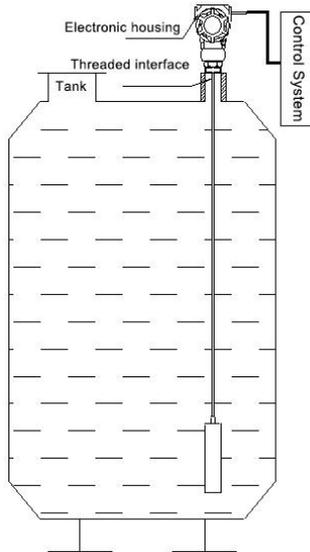

Figure 2 Threaded installation
(1) The high temperature transmitter has an installation structure such as interface thread, flange, etc., which can be flexibly selected according to the site. This example is the  $M35 \times 1.5$  thread installation method, as shown in Figure 2.
(2) When the level transmitter is installed, it can be put into water or other liquids, and the cable is led out from the wiring terminal in the shell to the display instrument, secondary instrument or control room.
(3) Choose a place that is easy to operate and maintain for installation.
(4) Install as far away as possible from the vibration source.
(5) When the level transmitter is installed, the probe should sink into the bottom of the container.
(6) The probe should be placed in the water vertically, and the angle with the vertical line should not exceed 30 degrees.
(7) If there are many impurities in the liquid medium, it is recommended to select a filter screen cover.
(8) The cable part on the ground needs to be protected or elevated.
(9) If used in moving water, the level transmitter should be fixed.
(10) The probe should be cleaned regularly to avoid blockage of the pressure inlet.
(11) The accumulation of water in the capillary tube will cause inaccurate measurement and unstable output. You can take out the gas collecting bucket regularly and drain the capillary tube to eliminate the fault.